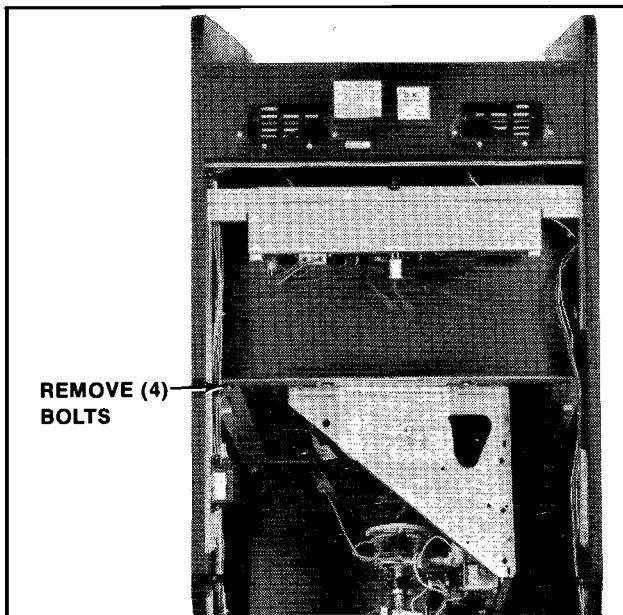

Figure 4-9 Removing Monitor — Upright
### 1. UPRIGHT MODEL. See Figure 4-9.
- The monitor mounting brackets slide on top of and against two metal guides mounted to the cabinet's right and left sides. The monitor is removed by sliding it out the back of the cabinet. See Figure 4-9.